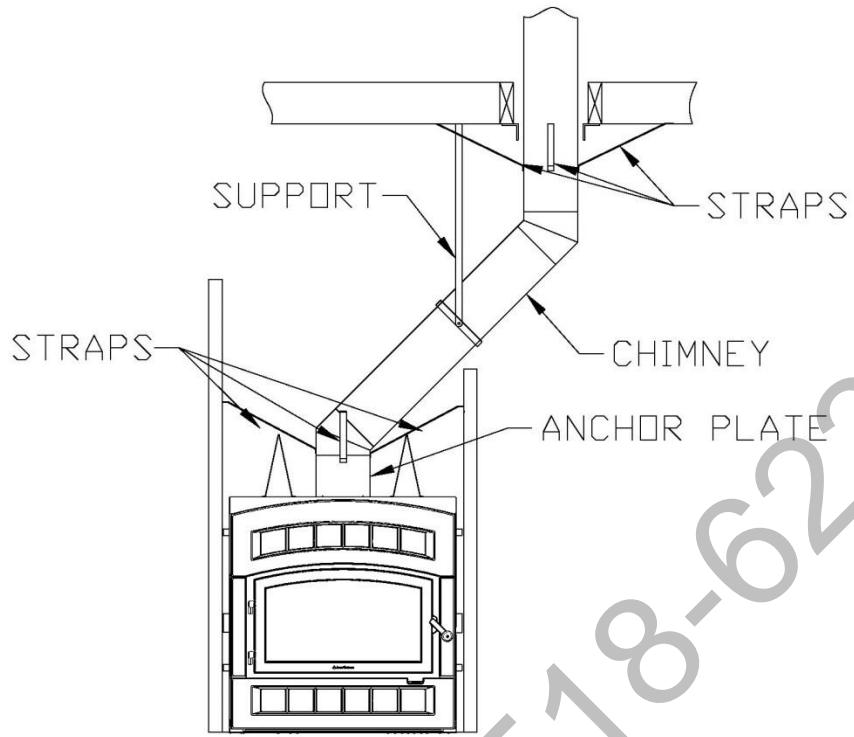

Figure 45
1. Install the first elbow; turn it in the required direction. Secure it to the chimney according to the chimney manufacturer's instructions. In many cases, it is recommended to secure connections with three (3) $\frac{1}{2}$ " (12 mm) metal screws.
2. Install the necessary chimney lengths to achieve the required offset. Lock the chimney lengths together according to the chimney manufacturer's instructions. In many cases, it is recommended to use three (3) $\frac{1}{2}$ " (12 mm) screws. If the offset length is made of two (2) chimney lengths or more, many chimney manufacturers may require that you use an offset or roof support halfway up the offset. If penetrating a wall, install a wall radiation shield supplied by the chimney manufacturer (see figures 45 & 46).